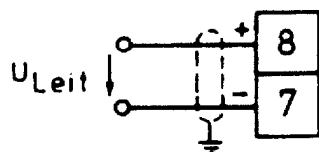

Fig. 5
b) Speed signal by isolated master voltage. Terminals 8 and 7 can be used to connect an isolated master voltage 0 ... 10 V in accordance with fig. 5.